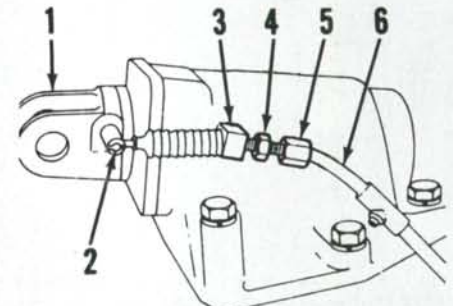

Fig. 250—View of sensing cable and its adjustment points.
318. DRAFT SENSING CABLE. Remove upper link from draft sensing unit. Install weights on lower links only. Move selector dial to DRAFT control setting. Turn jam nut (4—Fig. 250) clockwise and adjuster (5) counterclockwise until inner cable is free at bracket (2). Move linkage control lever rearward until SELECT position spring tension is felt. Start engine and allow lift linkage to raise to its highest position, then stop engine. Turn cable adjuster clockwise until linkage just starts to lower. Then turn cable adjuster counterclockwise $5\frac{1}{4}$ revolutions, hold adjuster in this position and tighten jam nut against bracket (3) to secure adjustment.